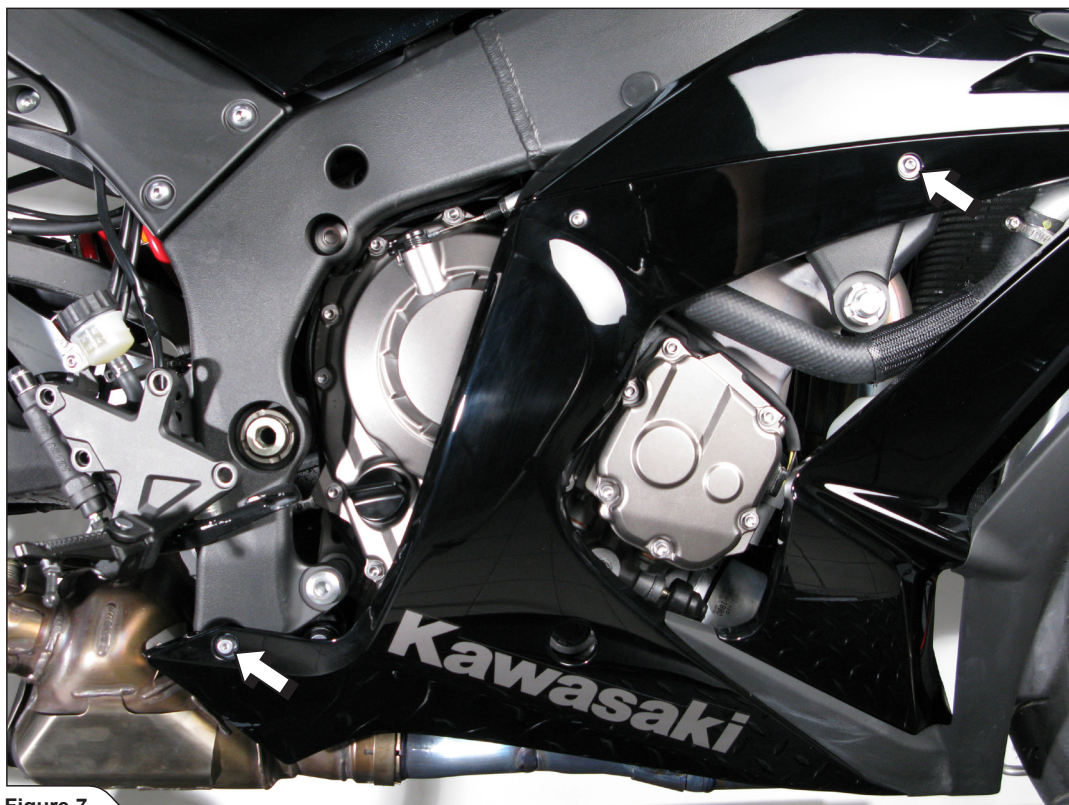

Figure 7
7. **For optional link pipe only:** unscrew the two marked bolts and partially remove the cowling (**Figure 7**).